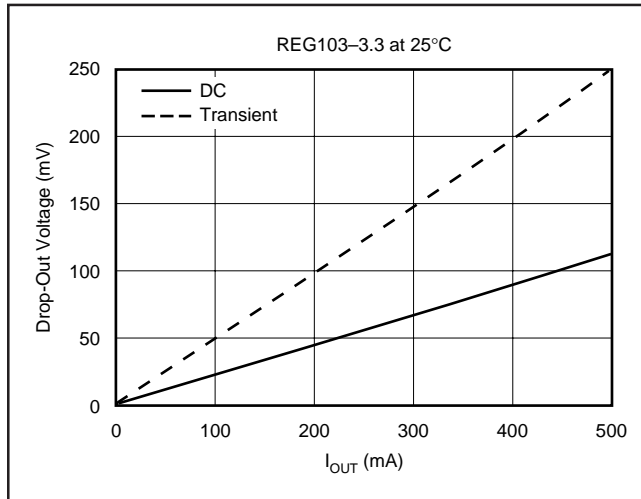

FIGURE 10. Transient and DC Dropout.
The REG103 uses an N-channel DMOS as the “pass” element. When the input voltage is within a few hundred millivolts of the output voltage, the DMOS device behaves like a resistor. Therefore, for low values of V_{IN} to V_{OUT} , the regulator’s input-to-output resistance is the $R_{DS(ON)}$ of the DMOS pass element (typically 230mΩ). For static (DC) loads, the REG103 will typically maintain regulation down to V_{IN} to V_{OUT} voltage drop of 115mV at full-rated output current. In Figure 10, the bottom line (DC dropout) shows the minimum V_{IN} to V_{OUT} voltage drop required to prevent drop-out under DC load conditions.
For large step changes in load current, the REG103 requires a larger voltage drop across it to avoid degraded transient response. The boundary of this “transient drop-out” region is shown as the top line in Figure 10. Values of V_{IN} to V_{OUT} voltage drop above this line insure normal transient response.